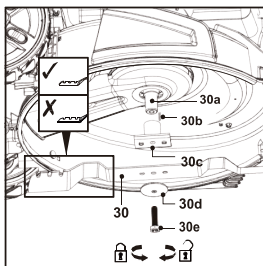

Fig. 27
1. Keep the underbody and cutting device (30) clean and free of debris. Remove clippings from the rear discharge chute (29).
2. Check all nuts and bolts periodically for tightness before operation. After prolonged use, especially in sandy soil conditions, the cutting device (30) will become worn and lose some of the original shape. The cutting efficiency will be reduced and the cutting device should be replaced.
3. Keep the cutting device (30) sharp to ensure a good cutting performance. Replace a worn or damaged cutting device with a new one of the same type or have it sharpened by a qualified specialist.
4. If jacking the product is not possible, tilt it to the right side so that the fuel tank cap (9) side is up. This helps to prevent fuel leakage and harder starting due to flooding of the carburetor (14).
5. Loosen the hex bolt (30e) anticlockwise using a suitable wrench (size 17 mm) and remove it together with the cup washer (30d), the cutting device (30), the blade holder (30c) and the pin (30b) from the spindle (30a) (Fig. 27).
7. Replace the cutting device (30) with a new one of the same type. Check the status of the flange onto the blade holder (30c), then attach the cutting device (30) properly and fix the assembly with the cup washer (30d) and hex bolt (30e). Tighten the hex bolt (30e) clockwise with 40-45 N.m to ensure safe operation of your product (Fig. 27).